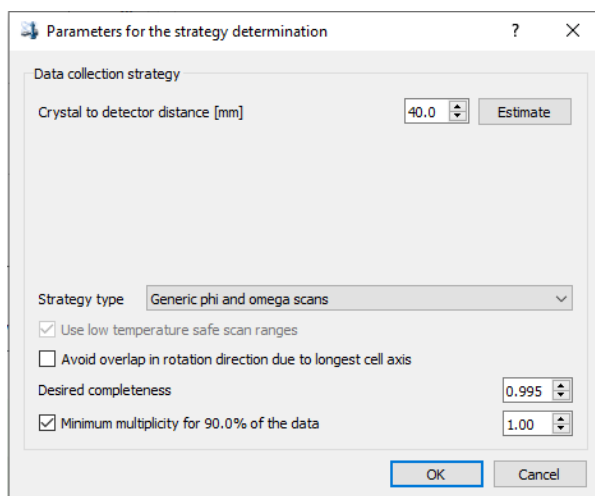

Figure 17, Determine Strategy popup window
- Click **<Determine Strategy>** (lower right corner). In the pop-up window (Fig. 17), it is usually safe to use the default values. Click **<OK>**.